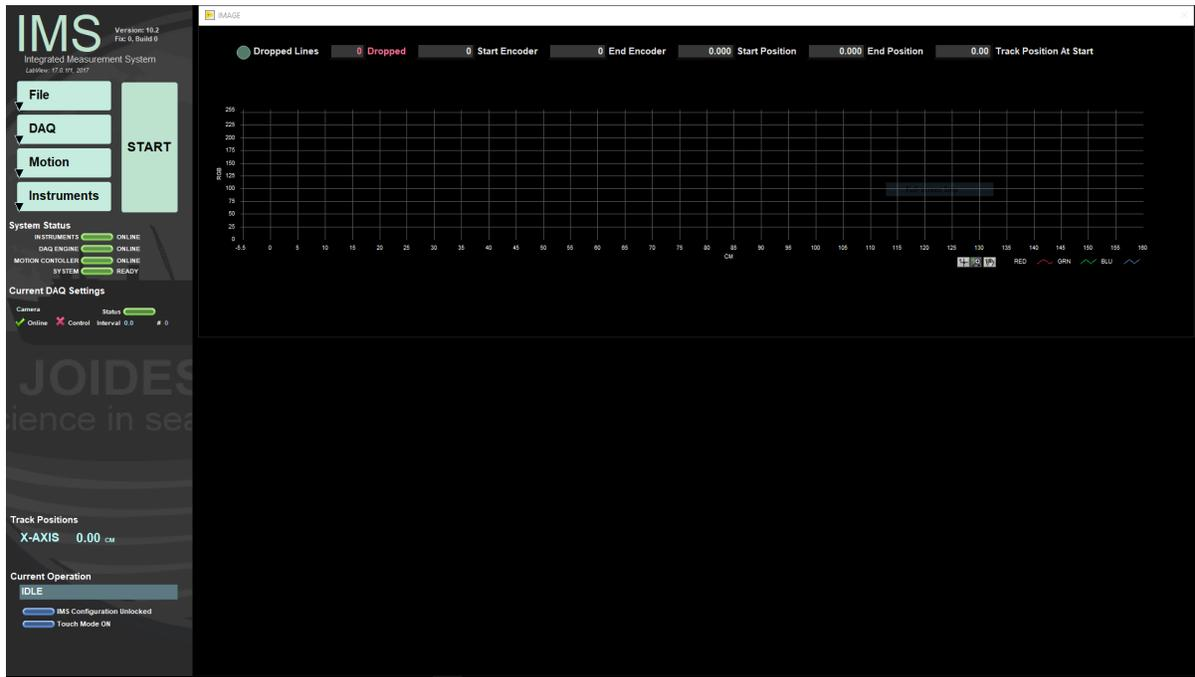

Figure 5. Main SHIL user interface window
3. After successful initialization, two windows will appear: The IMS Control Panel on the left and the measurement window along the top of the screen (Figure 5)